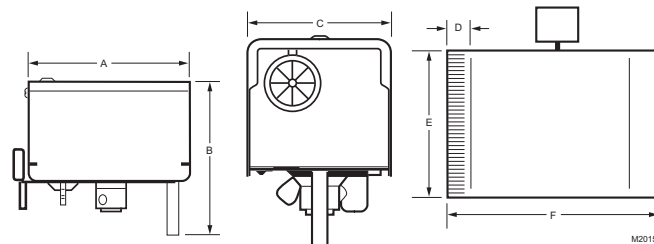

Fig. 1. Motor dimensions in in. (mm).
**Motor Dimensions:** See Fig. 1.
\* Nominal Device Dimensions (see Fig. 1.).